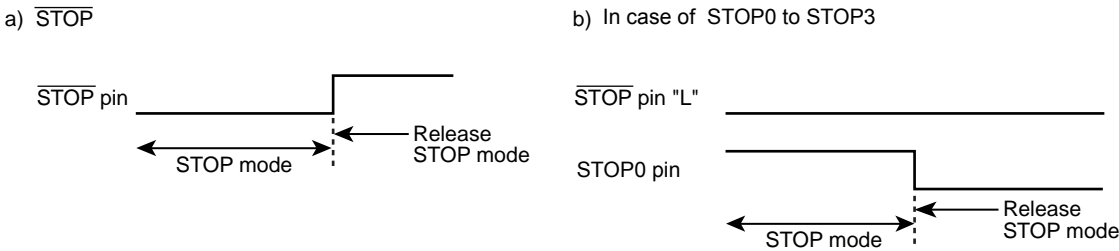

Figure 18-3 Priority of  $\overline{\text{STOP}}$  pin and STOP0 to STOP3 pins
- Note 6: When the STOP mode is released by STOP0 to STOP3 pins, the level of  $\overline{\text{STOP}}$  pin should hold "L" level (Figure 18-3).